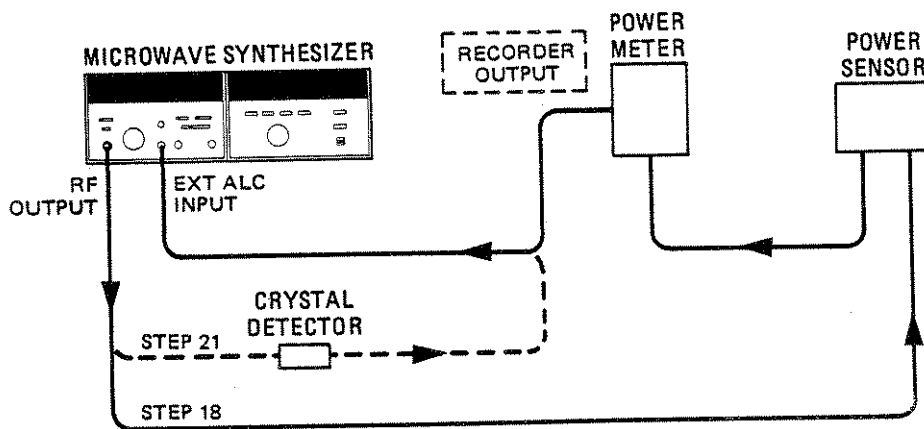

Figure 3-4. Operator's External ALC Checks Test Setup
21. Connect a crystal detector as shown in Figure 3-4. Set the ALC selector **17** to XTAL.